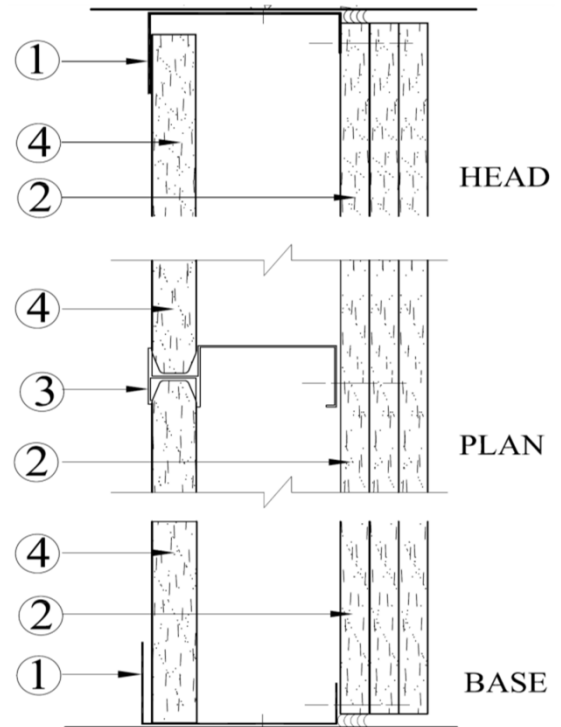

Figure 4 - Three Hour Cavity Shaft Wall (Non-Load Bearing)
Three-Hour Cavity Shaft Wall (Non-Load Bearing), See Figure 4
1. A minimum 2-1/2" deep 24 gauge floor and ceiling J-runners, attached to the structure as described in the Figure 4.
2. Apply three (3) layers of 5/8" thick Sheetrock® Brand Firecode® C Core Gypsum Panels (Type C), vertically or horizontally to the room side of the C-H stud. First layer shall be attached with a 1-in long Type S screw placed 24" o.c. in the field and at the edges when applied vertically, for horizontal applications the screws shall be spaced 16" o.c. The second layer shall be applied with 1-5/8" long Type S screws spaced 24" o.c. when applied vertically or spaced 16" o.c. when the applied horizontally. The Face layer shall be applied with 2-1/4" long Type S screws that are spaced 16" o.c. when the board is applied vertically, and spaced 12" o.c. when the board is applied horizontally. All joints must be staggered a minimum of 24" o.c. from the adjacent layers, where screws are offset a minimum of 6" from the layer below.
Table 4 - Limiting Heights Vertical Shaft Walls^{1,2} - Applicable to Fig. 4 & 5
1. See Figure 4 and 5 for vertical stud installation details within shaft/stair wall.